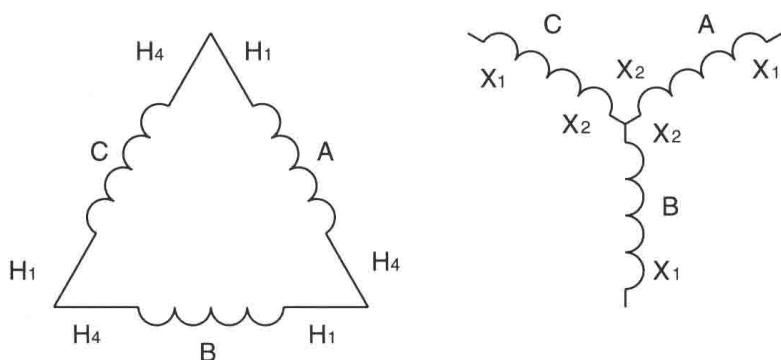
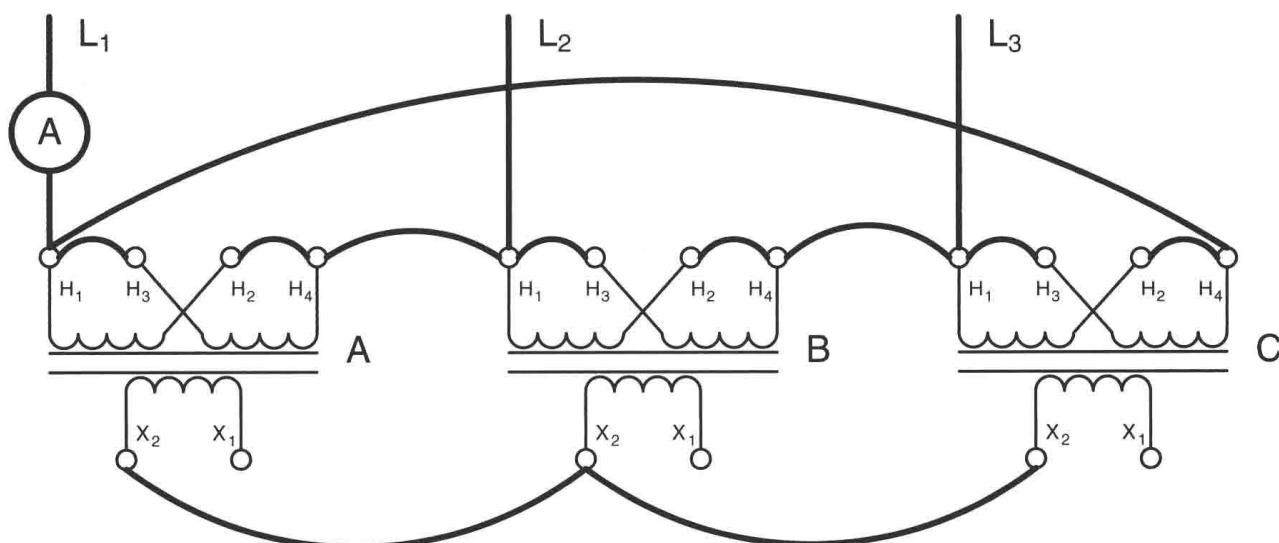

Figure 24-15 A delta-wye transformer connection.
Figure 24-16 Connecting three single-phase transformers to form a wye-delta three-phase bank.
A delta-wye connected three-phase transformer bank has its primary windings connected in a delta configuration and its secondary windings connected in a wye configuration (Figure 24-15). Notice that the three primary windings have been labeled A, B, and C. The H_1 terminal of transformer A is connected to the H_4 terminal of transformer C. The H_4 terminal of transformer A is connected to the H_1 terminal of transformer B, and the H_4 terminal of transformer B is connected to the H_1 terminal of transformer C. The secondary windings form a wye by connecting all the X_2 terminals together.
1. Connect the circuit shown in Figure 24-16. Notice that the three transformers have been labeled A, B, and C. The H_1 terminal of transformer A is connected to the H_4 terminal of transformer C, the H_4 terminal of transformer A is connected to the H_1 terminal of transformer B, and the H_4 terminal of transformer B is connected to the H_1 terminal of transformer C. This is the same connection shown in the schematic drawing of Figure 24-15. Also, notice that the X_2 terminal of each transformer is connected together to form a wye connected secondary.